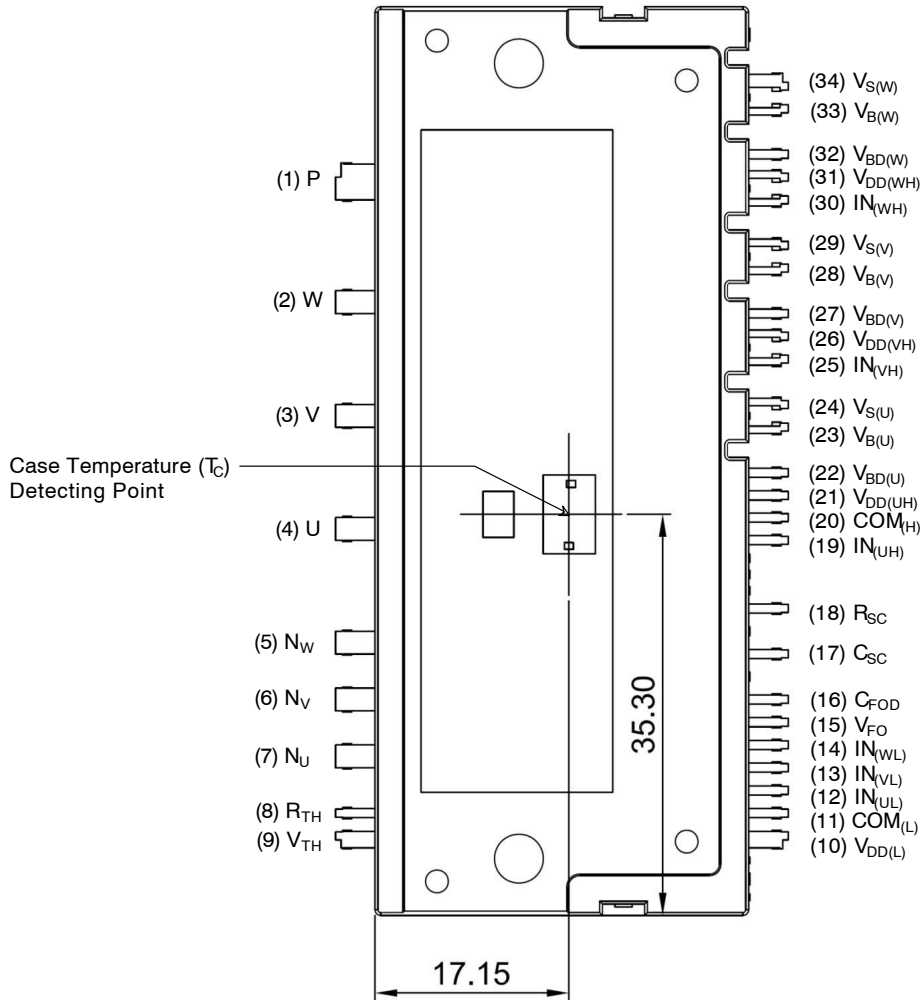

Figure 2. Top View
- 1200 V–35 A IGBT inverter for three–phase DC/AC power conversion (Refer to Figure 2)
5. For the measurement point of case temperature (TC), please refer to Figure 2. DBC discoloration and Picker Circle Printing allowed, please refer to application note AN-9190 (Impact of DBC Oxidation on SPM® Module Performance).